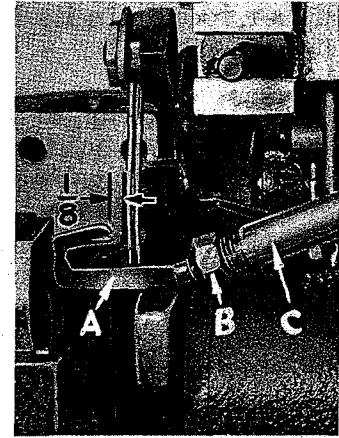

Fig. 5
At this point, insert lower spreader (A, Fig. 5) into bar (C). With lower spreader at the left end of its stroke, set the spreader point $1/8$ inch from center of left needle, using looper gauge No. 21225 G- $1/8$. Do not have lower spreader deflecting the needles. Tighten nut (B).